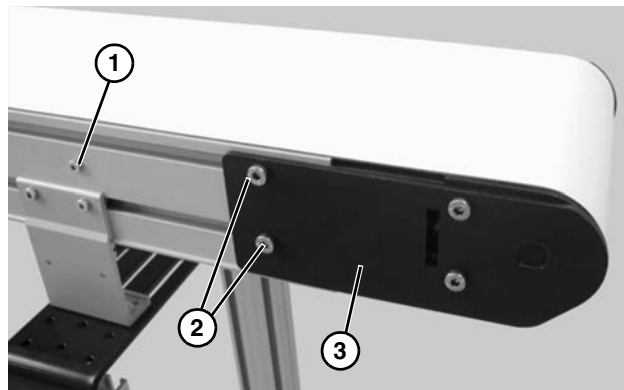
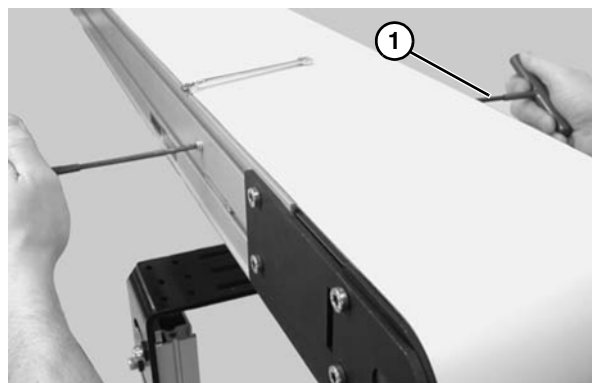
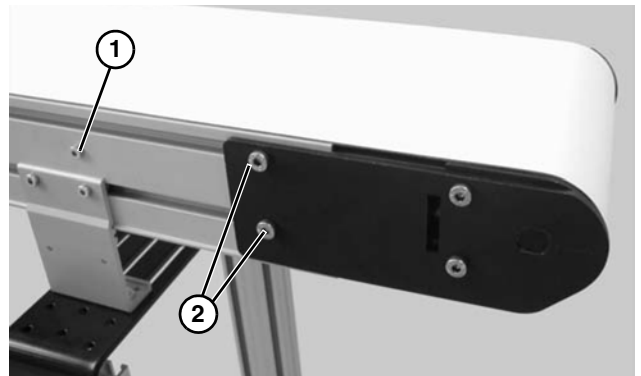

Figure 32
Figure 33
Figure 36
1. On tension end of the conveyor, identified by the pinion locking screw (**Figure 32, item 1**), loosen the two tail clamp bolts (**Figure 32, item 2**), on both sides of conveyor.
2. With 5mm hex wrench, hold pinion torque screw (**Figure 33, item 1**). Loosen the pinion locking screw (**Figure 32, item 1**) and turn the pinion torque screw (**Figure 33, item 1**) to extend head plate assembly (**Figure 32, item 3**).
4. After adjusting proper tensioning, tighten the pinion locking screw (**Figure 32, item 1**) to 69 in-lbs (7.8 N-m), and tighten tail clamp bolts (**Figure 32, item 2**) on both sides of conveyor to 146 in-lb (16.5 N-m).
2. Ensure tensioning racks are extended and touching the idler pulley headplates: loosen the pinion locking screw (**Figure 36, item 1**) and rotate the pinion torque screw (**Figure 33, item 1**) clockwise until contact with the head plate is made, then tighten the pinion locking screw (**Figure 36, item 1**) to 69 in-lbs (7.8 N-m)
3. On the side of conveyor to be adjusted, loosen two (2) tail clamp screws (**Figure 36, item 2**).